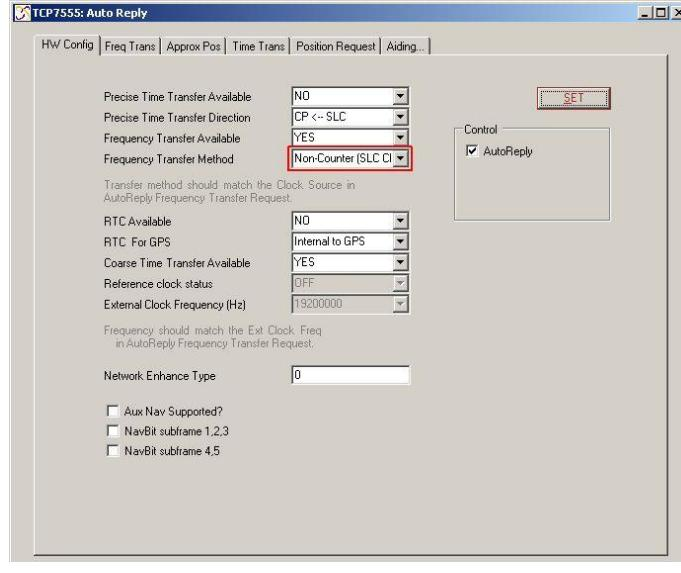

Figure 7.46: Non-Counter: HW Config Settings
- HW Config settings as in Figure 7.46.